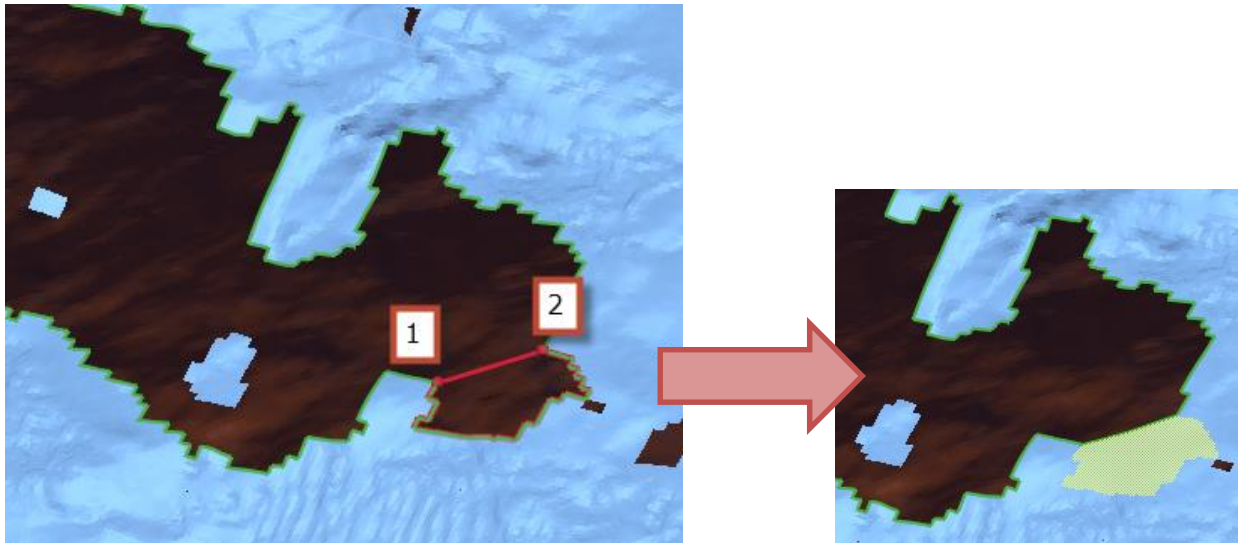

Figure 62 – Fill Gulf
- Left click one time on the top, left-most point of the gap shown below in **Figure 62**.